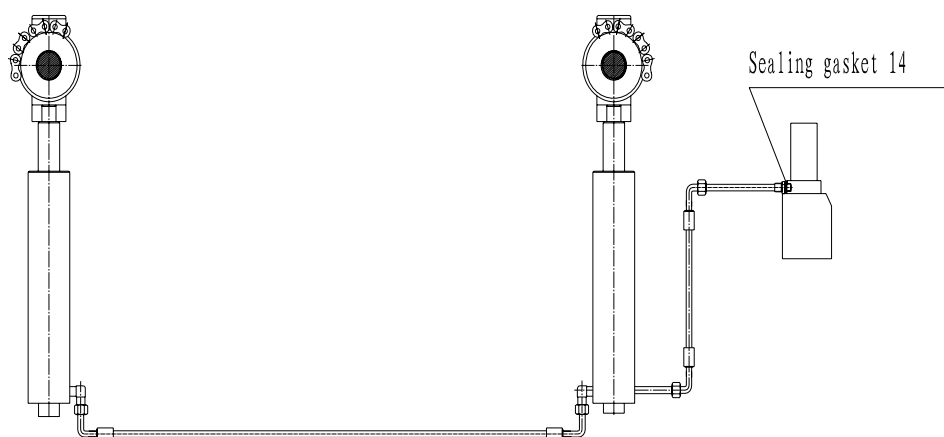

Fig. 7
- Check to see if the connection between hydraulic cylinder and carriage is proper, if the connecting nut between the steel chain and carriage is loose or falling. Refer to Fig. 7.